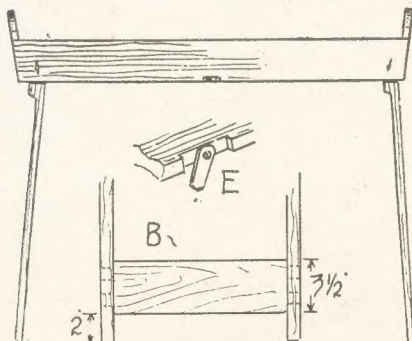

Fig. 1—Side view and details of fixing
The legs are cut to length and the ends trimmed to semi-circles, with  $\frac{1}{2}$  in. radius. Holes for the fixing screws are bored in the centres of the semi-circles. These legs are fixed to the sides, inside of course, at the place indicated at (C) in Fig. 3, so they, when pulled down, play out slightly. Note particularly that the cut-away parts of each leg face the same way, and are not paired. This will be apparent in Fig. 1. Fit the left side legs first, then the correct way to fit the right ones will be seen at once. Any error here will simply result in the legs not folding together properly.
This rail is shown in the inset sketch (B) in Fig. 1. Cut the rails from  $\frac{1}{4}$  in. or  $\frac{3}{8}$  in. wood, to the correct length, measured between the sides of tray, underneath. The ends are cut to form tenons, 1 in. long and  $\frac{3}{4}$  in. apart, and the legs mortised to suit. Glue the rails in and refit the legs to the tray. This completes the job, except finishing.
To keep the legs up after folding, a half button can be employed, as at detail (E) (Fig. 1). These are screwed to the under edges of the tray sides, underneath, of course, and in the centre. A slot should be cut for each, just deep enough to sink the half-button level, and allow the tray to stand firm.